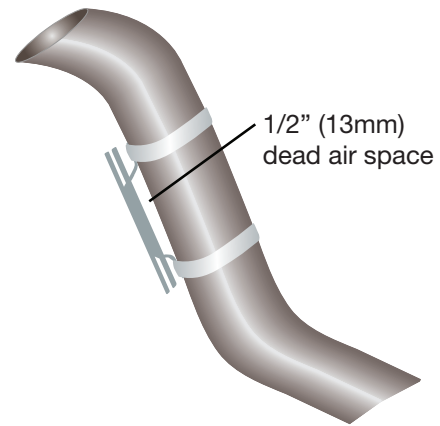

Fig. 27
2. Bend tabs to provide a dead air space between exhaust pipe and heat shield. (Fig. 27) Attach the heat shield to the exhaust pipe using the clamps. Bend the heat shield for maximum clearance to the air spring.